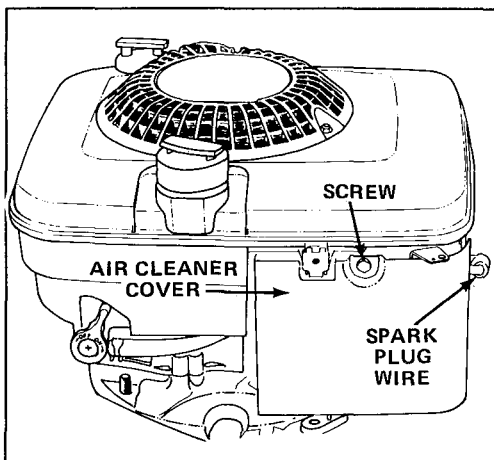

Figure 15
2. Remove screw securing air cleaner cover to engine (Fig. 15). Tilt cover down and clean thoroughly.